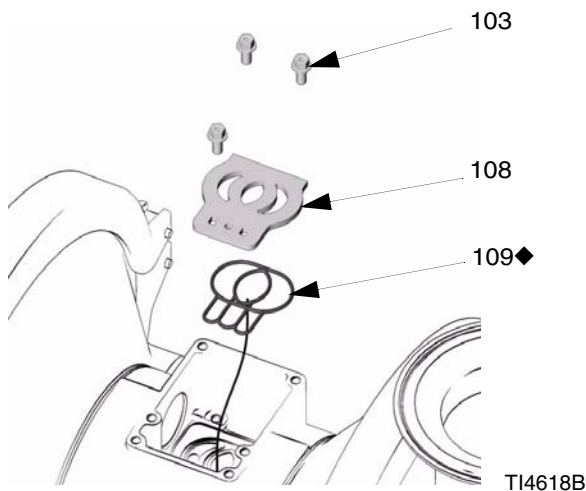

FIG. 9
5. Inspect the valve plate (108) in place. If damaged, use a Torx (T20) screwdriver or 7 mm (9/32") socket wrench to remove the three screws (103). Remove the valve plate (108) and seal (109). See FIG. 9.
2. Install the valve plate seal (109) into the groove at the bottom of the valve cavity. The rounded side of the seal **must face down** into the groove. See FIG. 9.
3. Install the valve plate (108) in the cavity. The plate is reversible, so either side can face up. Install the three screws (103), using a Torx (T20) screwdriver or 7 mm (9/32 in.) socket wrench. Tighten until the screws bottom out on the housing. See FIG. 9.